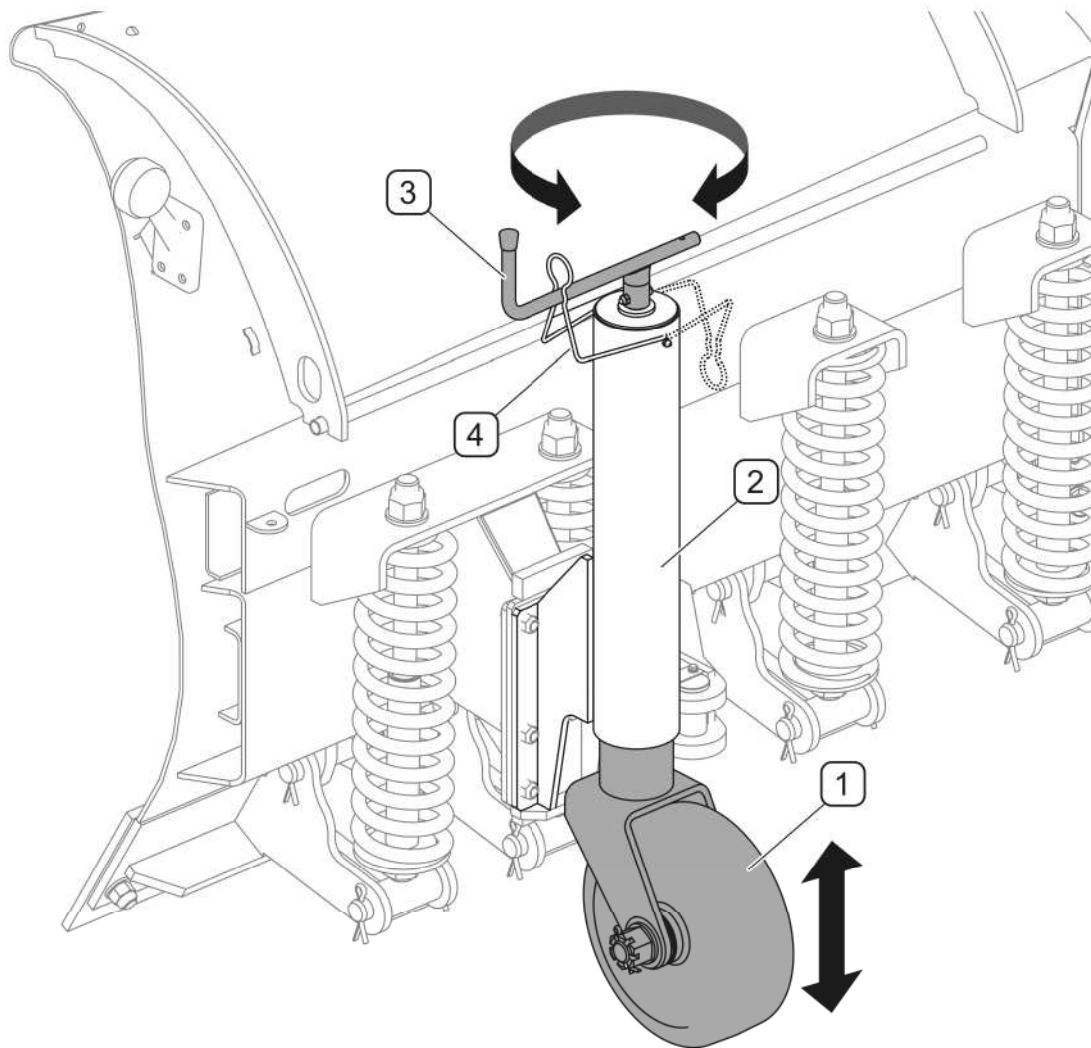

FIGURE 4.8 Height adjustment in ploughs equipped with wheels
(1)- wheel; (2)- body; (3)- knob; (4)- knob lock
In ploughs equipped with supporting wheels (FIGURE 4.8), the height adjustment is performed by withdrawal or insertion of wheel (1) in the body (2) by turning the knob (3). The handle is protected by a lock (4). After setting the wheel height, appropriately set handle (3) and secure it with lock (4). It is recommended that both wheels are set at the same height.